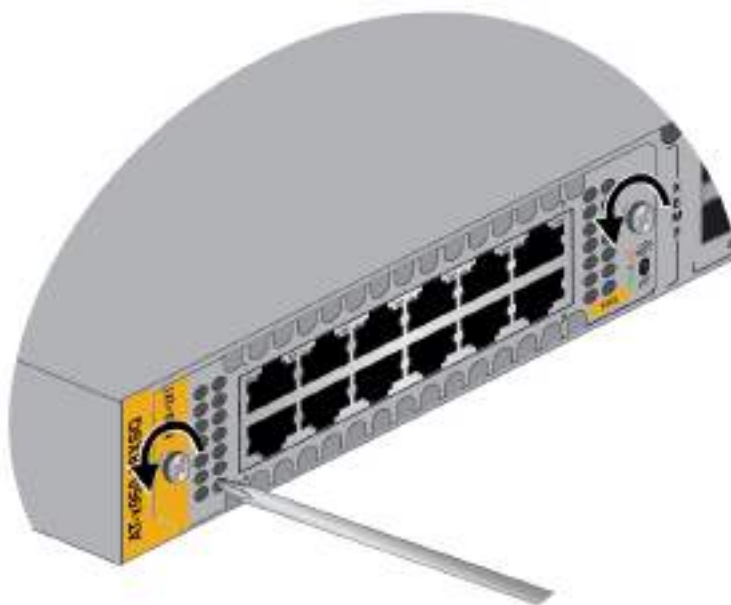

Figure 122. Loosening the Screws on the Ethernet Line Card
4. Use a #2 Phillips-head screwdriver to loosen the two screws on the faceplate of the card. Refer to Figure 122.